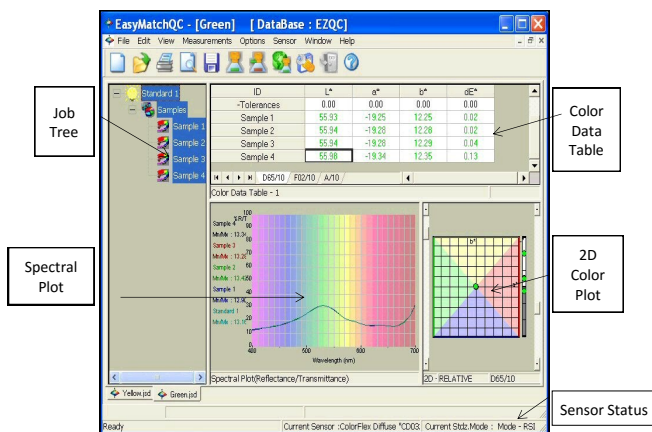

Figure 13. Shows Job Tree on left side, Color Data Table at top right, Spectral Plot in center and 2D color difference plot on lower right.
3. The **2D Color Plot** displays a two-dimensional representation of color space with the standard as the center point of the plot and the samples plotted on the graph. In the example (Figure 13), the  $a^*$  of the  $L^*a^*b^*$  scale is plotted on the x-axis and the  $b^*$  of  $L^*a^*b^*$  is plotted on the y-axis. Just to the right of this square portion of the plot is a thermometer graph that plots  $L^*$ . The samples in the job are shown on the plot relative to the standard and each other. Tolerance limits will be shown as a red box around the standard position. Rolling the mouse over a point will display the sample ID, its pass/fail status, and its color values.